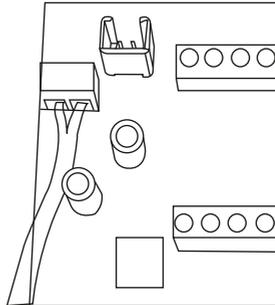

Figure 6
3. Press the **'Program button'** on the detector once (see **Figure 6**) The red LED will light.